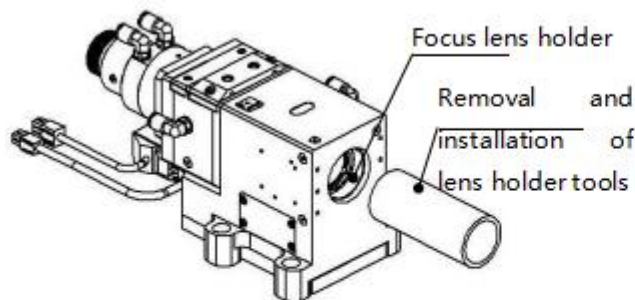

Figure 6.8 — Removal and installation of focus lens
- As shown in figure 6.8, use a lens-taking tool to remove the focus lens holder;